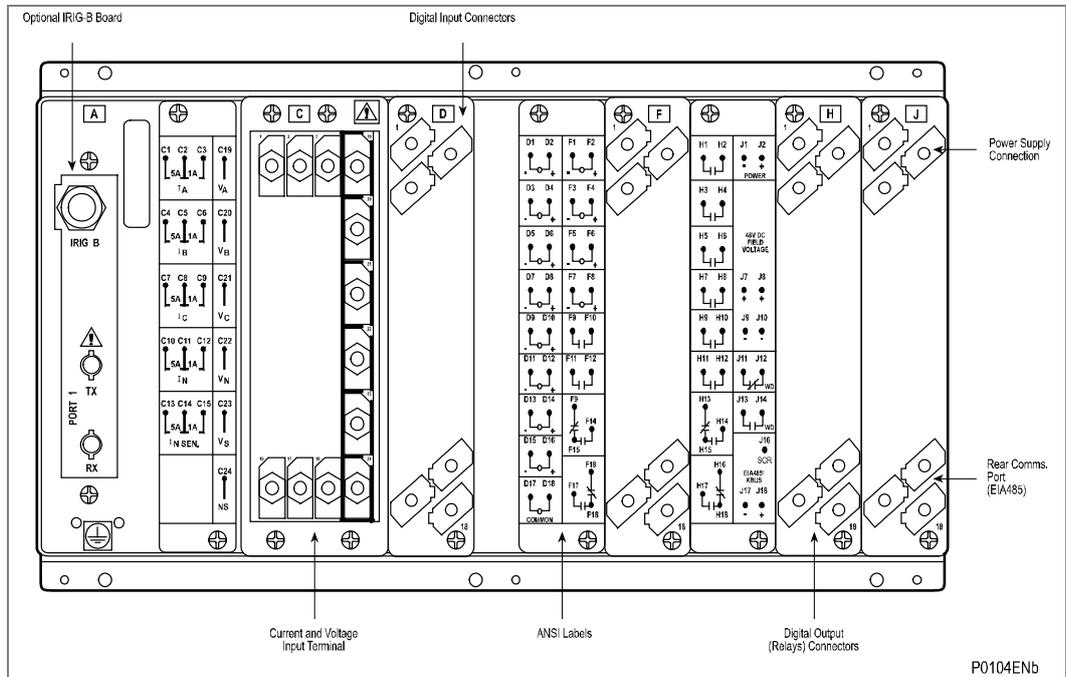

Figure 3 - Relay rear view for B-variant
- Note* Figure 3 shows the optional optical fiber rear communication port with IRIG-B time synchronizing input.